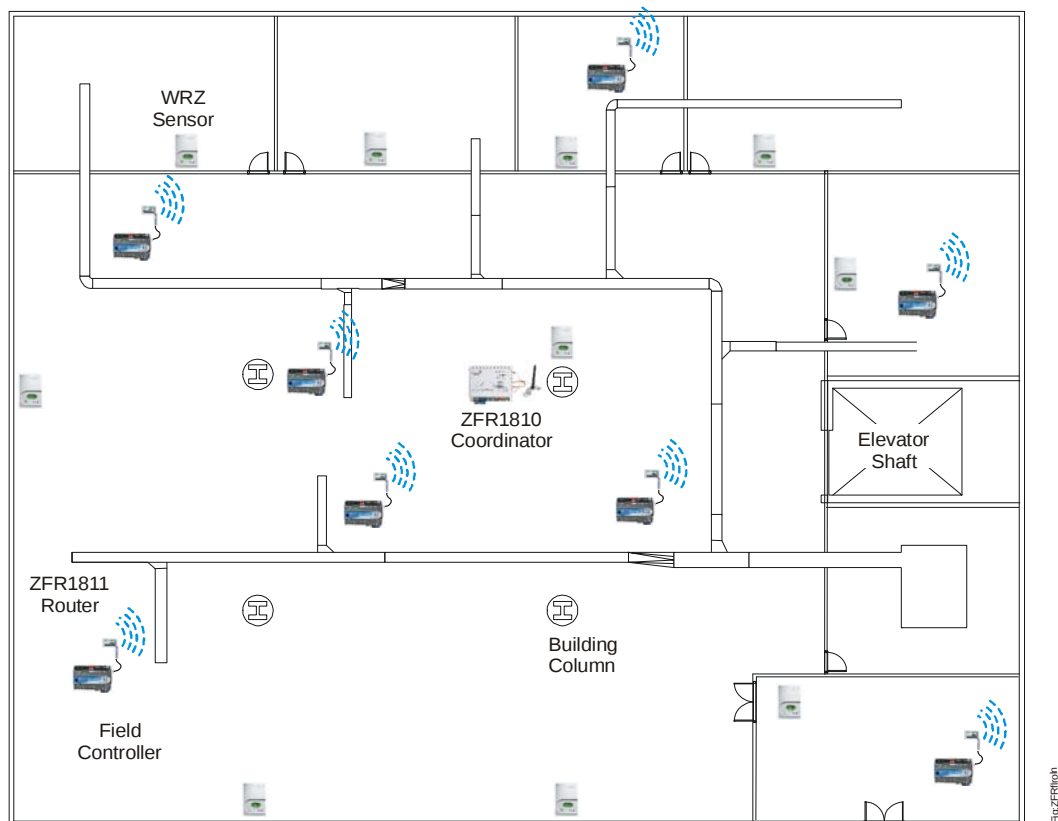

Figure 4: Building Floor Plan with ZFR1800 Series System
1. Inspect the building plans floor by floor (section by section on each floor if necessary), and locate your field controller and the intended locations of all WRZ sensors. See Figure 4.
3. Highlight all of the obstructions on the building floor plans; for example, elevator shafts, metal equipment, equipment rooms, and duct work. See Figure 4.
4. Locate the ZFR1810 Coordinator near the center of the space. See Figure 4.